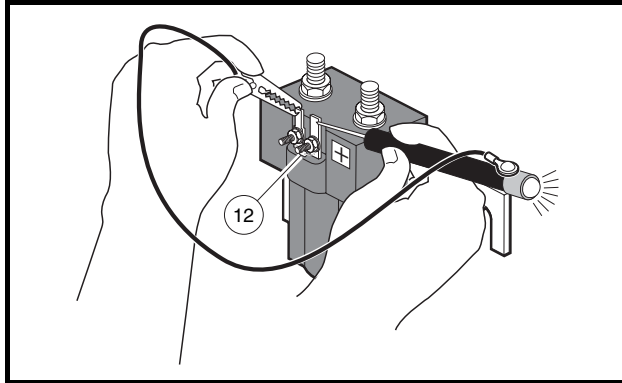

Figure 11-8 Diode Test – Probe Position One
- 3.1. Place the probe end of the tester on the small terminal of the solenoid marked positive (+) and place the alligator clip of the tester on the wire on the other small activating coil terminal (**Figure 11-8, Page 11-20**). The tester should illuminate, indicating continuity.